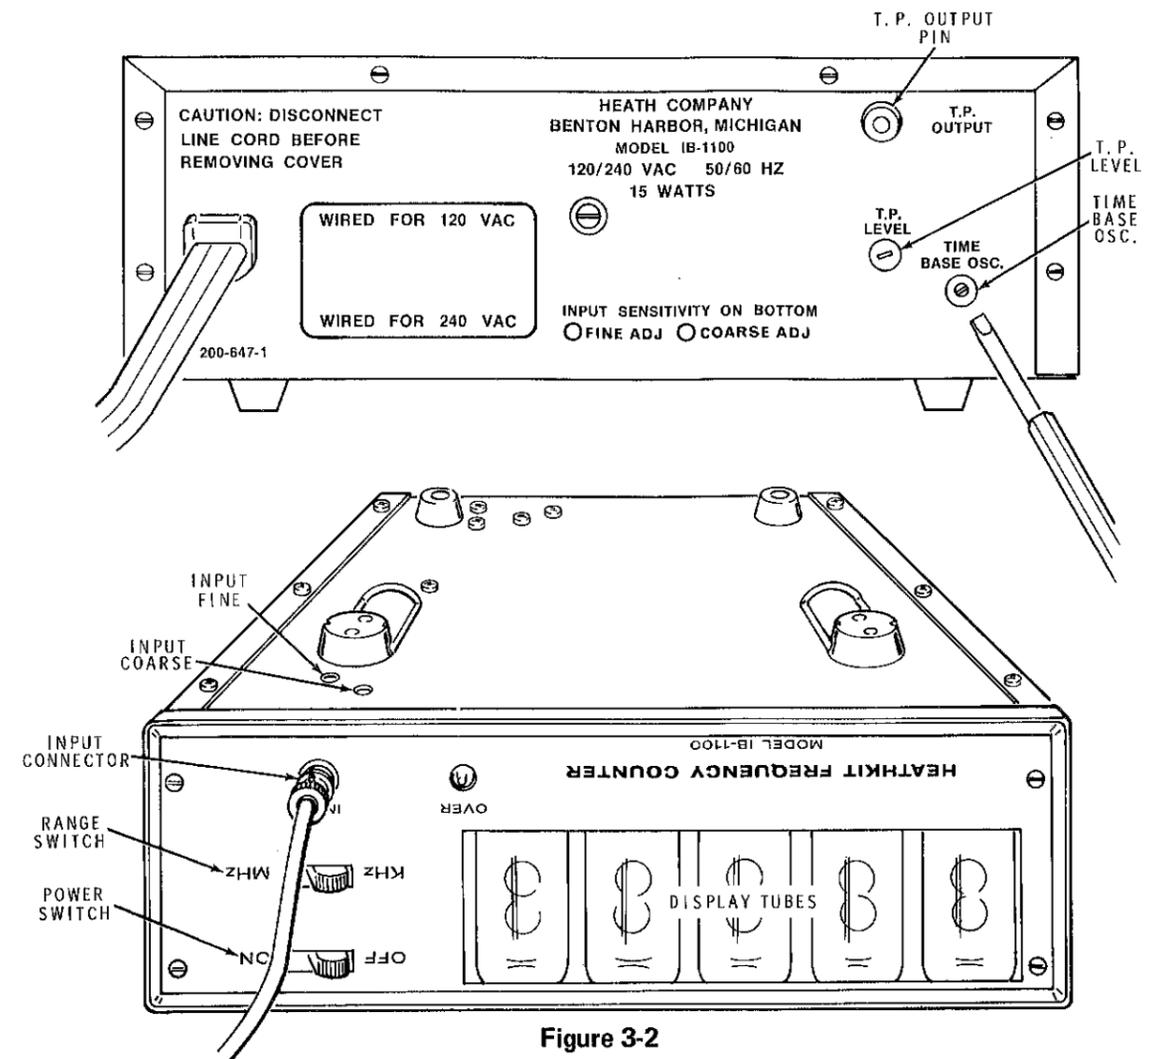

Figure 3-2
- ( ) When the pulsating tone is heard, refer to Figure 3-2 and insert the screwdriver end of the white alignment tool into hole TIME BASE OSC on the rear chassis lip and into the piston trimmer capacitor.
Refer to Figure 3-2 for the following steps.
- (✓) 4. If the Counter does not indicate this frequency, use your white alignment tool and adjust the INPUT COARSE control (see Figure 3-2 on Page 33) until the correct frequency is displayed.